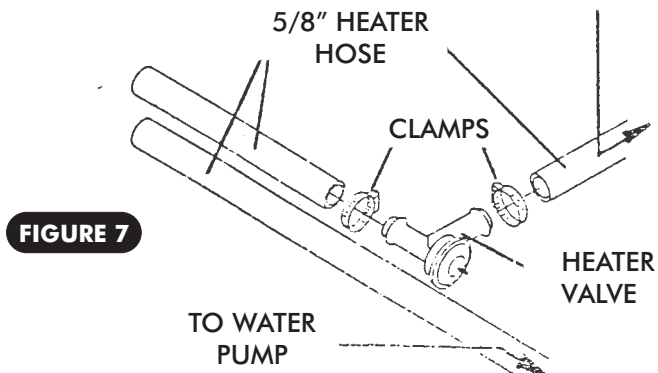

FIGURE 7
2. LAY THE EVAPORATOR ON THE FLOORBOARD AND ATTACH #6 & #10 A/C HOSES AS FIGURE 4B SHOWS. IT IS ALSO NECESSARY TO INSTALL THE HEATER HOSES AT THIS TIME AS FIGURE 7 SHOWS ON PAGE 10. THE HEATER HOSES PASS THRU THE LOWER HOLES IN BOTH BULKHEADS AND FOLLOW THE SAME ROUTING OUT OF THE PASSENGER COMPARTMENT AS THE A/C HOSES (REFER TO PAGE 14).
INSTALL HEATER HOSES AND HEATER VALVE AS SHOWN IN FIGURE 7 BELOW.